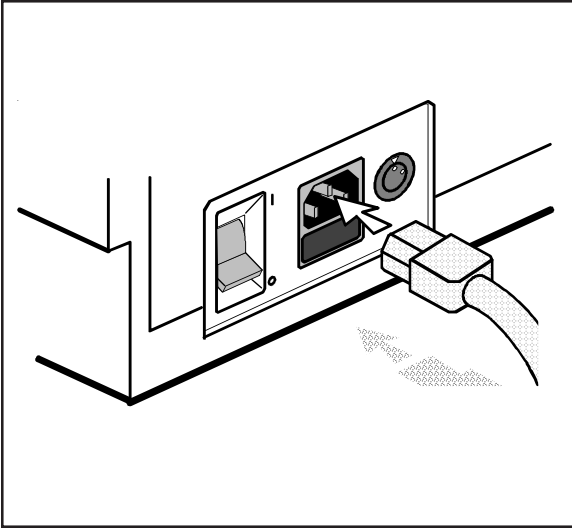

Figure 2-9. Attaching the Power Cord
2. Take the power cord and plug the three-hole connector into the power receptacle at the rear of the printer, as shown in figure 2-9.